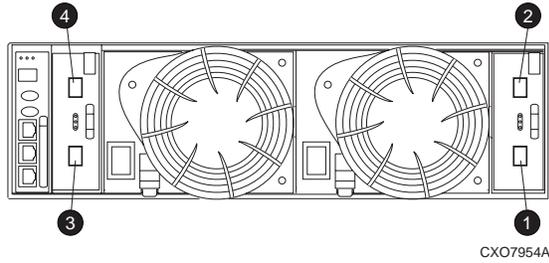

Figure 50 Transceiver element numbering
- *en.* is the two-character transceiver element number (see Figure 50)